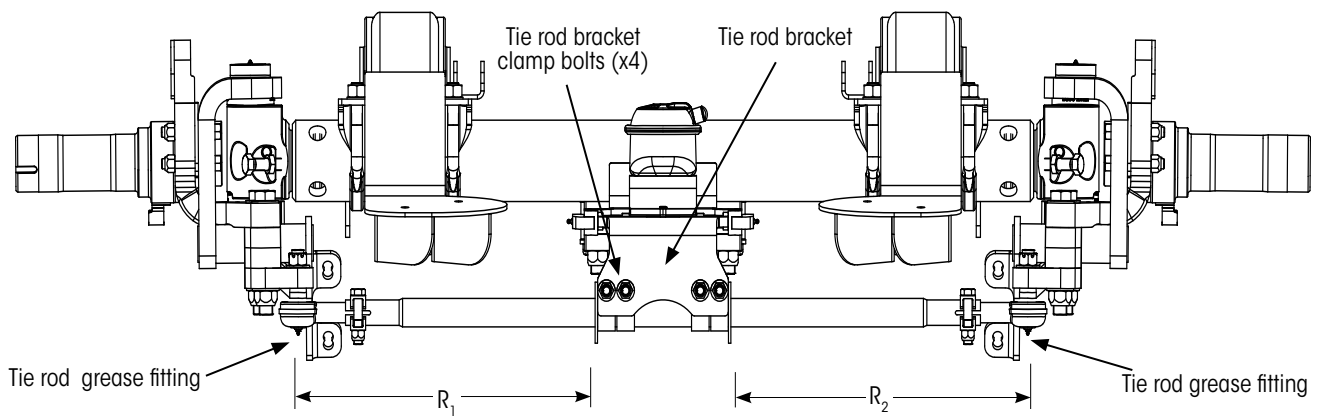

Figure 29: Tie rod end clamp orientation
- D. **Measure** to ensure, in Figure 29 on page 22, $R1=R2\pm 0.09$ inch (2.3 mm). If R1 does not equal R2 loosen the tie rod center clamps and break the tabs on the center washers. Adjust the tie rod on the center bracket until $R1=R2$. Tac centering washers.